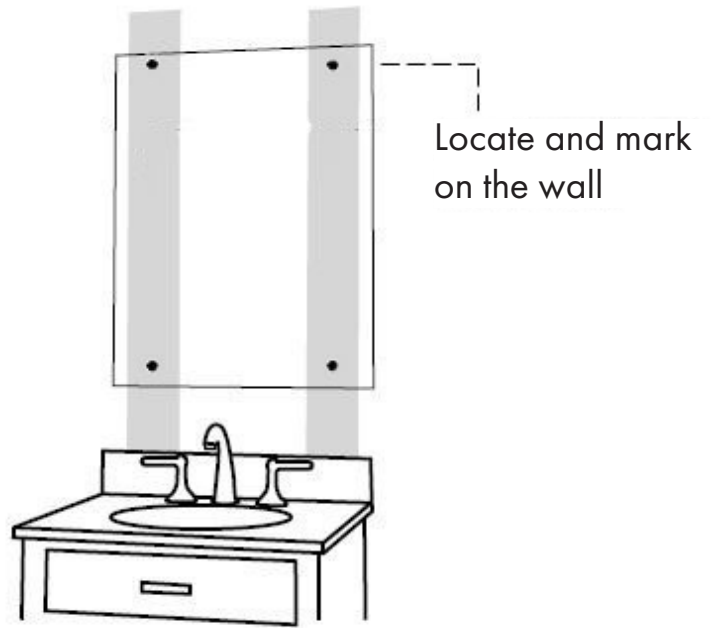

Fig. 2
2. Place the cabinet against the wall and mark screw holes as located on the interior of the cabinet. Placing a small level on the interior of the cabinet will determine if your marks are level. (Figure 2)